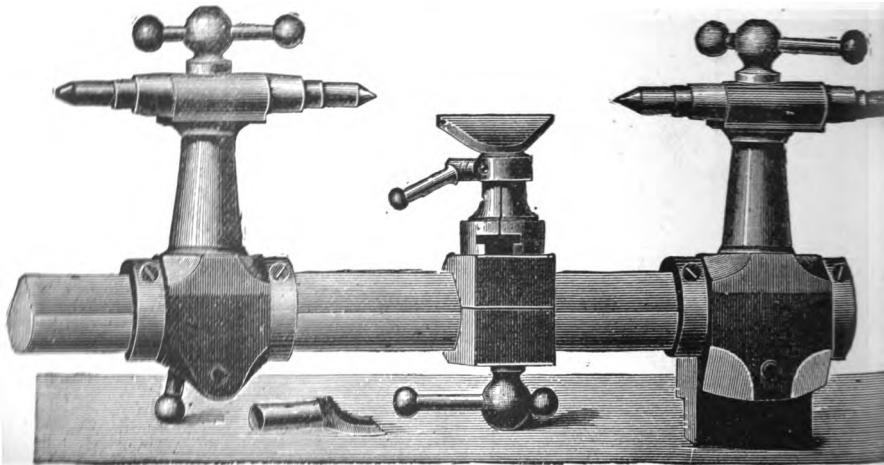

Fig. 1.—Sanspareil Lathe.
Lamp, Fig. 1.
**Lamp.**—*Lampe.*—*Die Lampe.*—As an artificial illuminator the paraffin lamp shown in Fig. 1 fulfils nearly all the requirements of the watchmaker. It yields a strong white light, is cooler than gas at less cost, is readily adjustable for height as well as horizontally. The one drawback incidental to all oil lamps is the necessity of frequent cleaning. The Gas lamp shown in Fig. 2 is furnished with a subsidiary shade, which is a protection to the eyes.